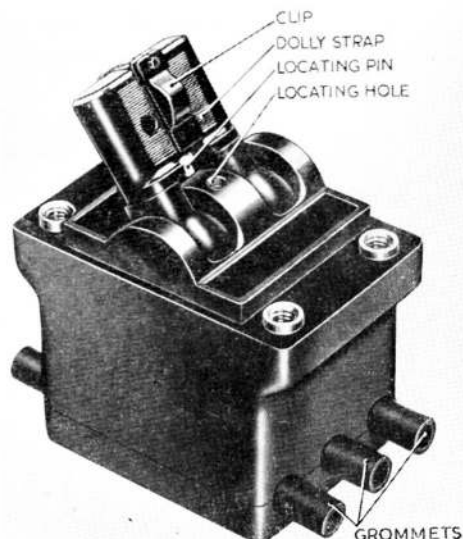
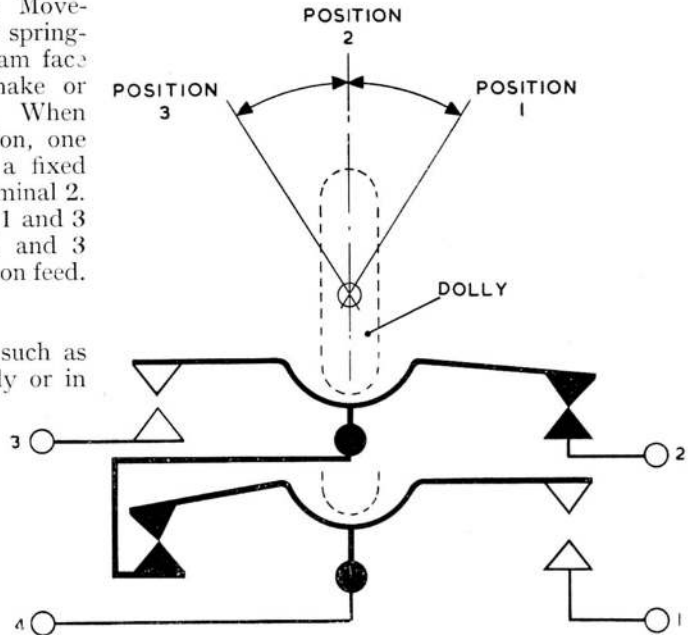

Fig. 2. Type 8B, No. 3 switch
Fig. 3. Operation circuit diagram
5. The switch, Type 8B, No. 3 (*fig. 2*) is constructed as described in para. 2 and 3 but has, in addition, a locking device which locks the dollies in the central position (*fig. 2*). Locking is achieved by a clip on the dolly strap, which carries a locating pin at its lower end. The pin and clip are loaded by a spring housed within the clip, and the latter is able to slide up and down within recesses formed in the moulded dolly strap. When the dollies are in the central position, the locating pin enters a hole (position 2) drilled into the raised section of the body moulding and it is necessary to break this alignment, by lifting the clip, to obtain either position 1 or 3 (*fig. 3*).
| Towards terminals 1 and 2 (position 1—fig. 3) | not less than 2 megohm | not less than 2 megohm | Zero |
| Central (position 2—fig. 3) | not less than 2 megohm | Zero | not less than 2 megohm |
| Towards terminal 3 (position 3—fig. 3) | Zero | not less than 2 megohm | not less than 2 megohm |